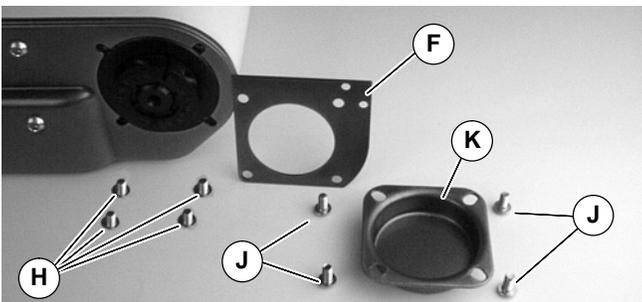

Figure 6
3. Remove and retain original screws (H of Figure 6) and end cap (K) on side opposite drive shaft.